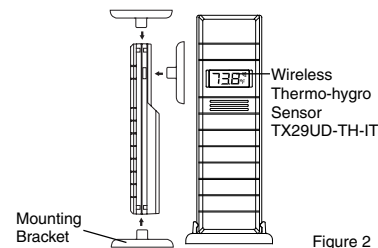

Figure 2
2. Wireless Thermo-Hygro Sensor (TX29UD-TH-IT) and mounting bracket. (Figure 2)